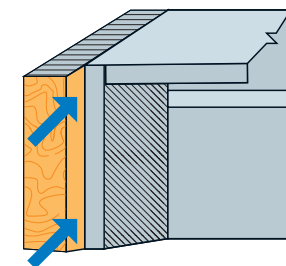

Figure 3: Push cabinet back
2. Push the cabinet as far back as possible into the opening (see **Figure 3**).